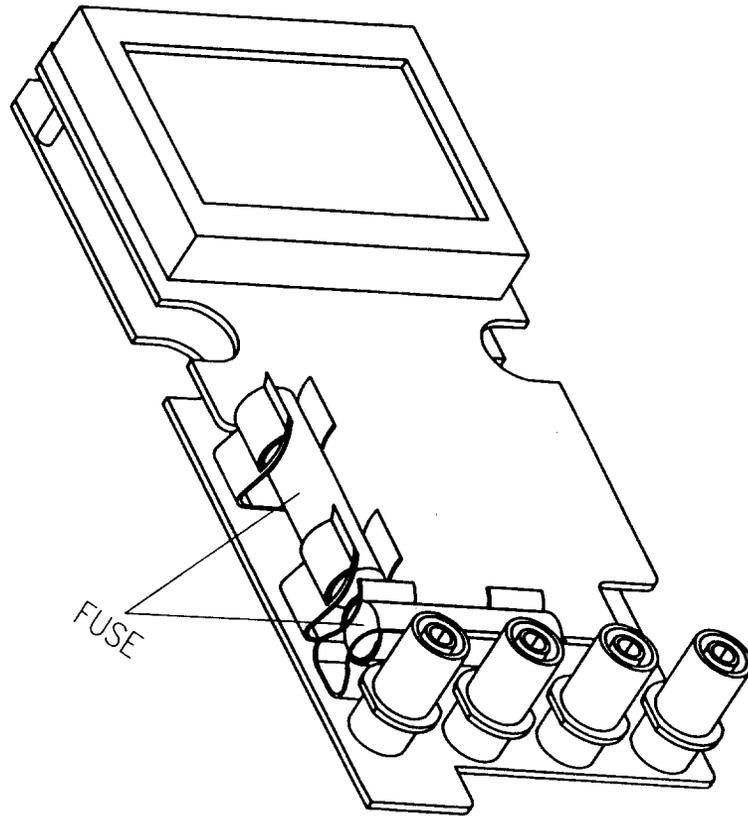

Figure 35. Fuse replacement.
2. Lift the circuit board as shown in **Figure 35**.